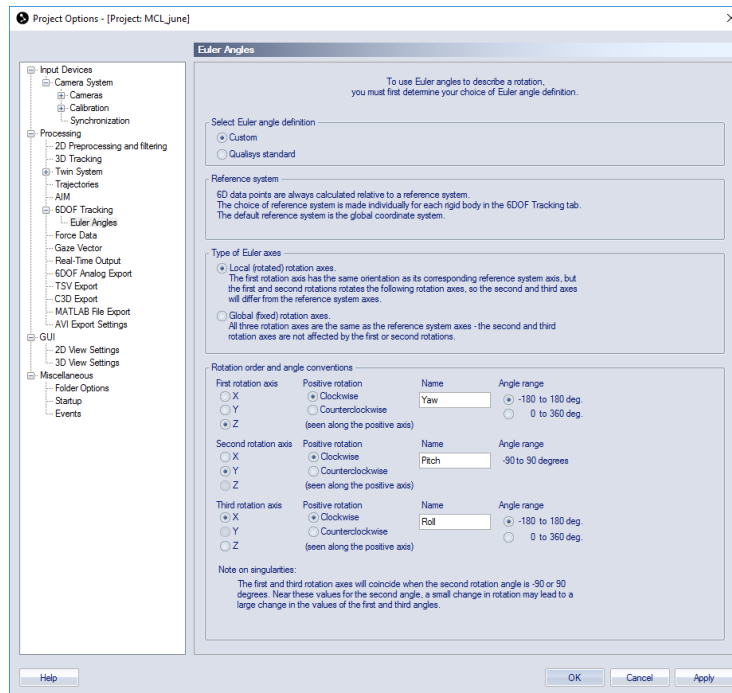

Figure 1.6: QTM rotation convention
5. Verify that Qualisys is set to *zyx*-convention for the rotations. In the left-pane navigation tree, expand 6DOF Tracking, select Euler Angles. Figure 1.6 show the correct setting for *zyx*-convention.